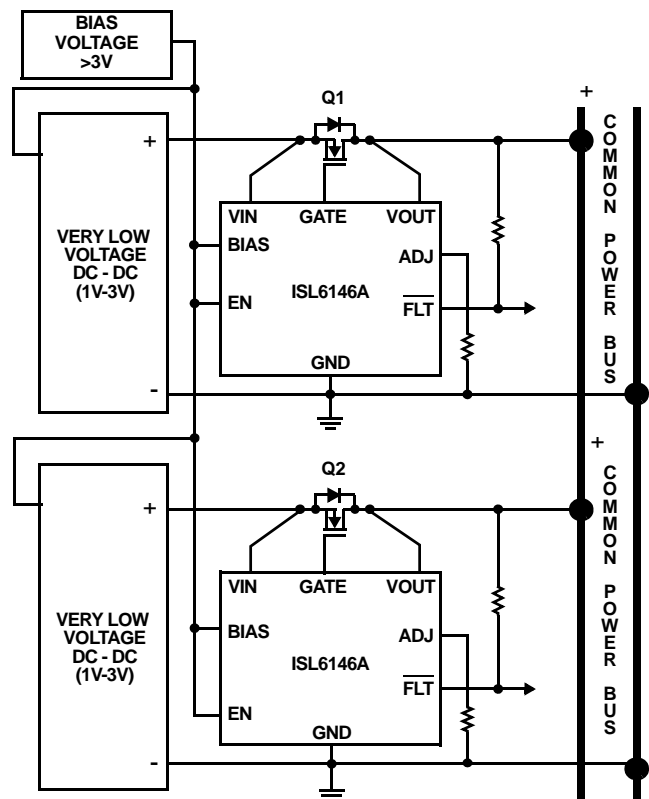

FIGURE 47. LOW VOLTAGE APPLICATION DIAGRAM
The ISL6146A application shown in Figure 47 is the configuration for ORing very low voltages of 1V to 3V. Additionally, this application shows the utilization of the ADJ input with a single resistor tied to GND. This provides the user a programmable level of  $V_{OUT} > V_{IN}$  before the High Speed (HS) Comparator is activated and the GATE output is pulled down to allow for normal voltage fluctuations in the system.